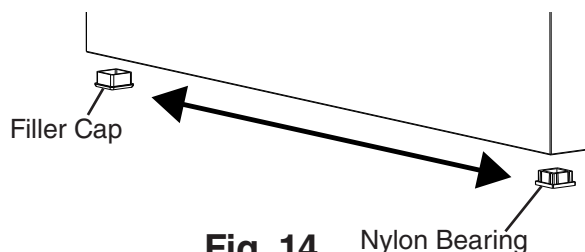

**Fig. 14**
- 10) Remove the filler cap and nylon bearing from the bottom of the door. See Fig. 14. Reinstall on the opposite side.